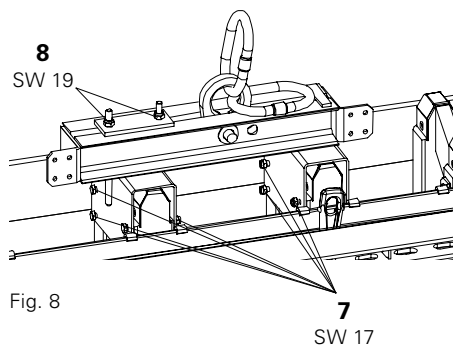
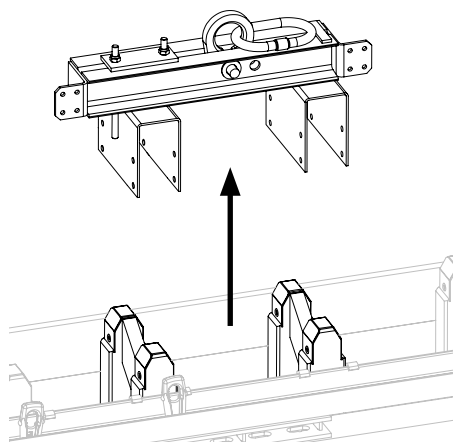

Fig. 8
Fig. 9
2. Release top two Nuts (8).
3. Loosen and remove the eight Nuts and Bolts (7). (Fig. 8)
5. Attach Bolts with Nuts (7) to the Crane Hook 2 t / GT 24.
6. Secure top two Nuts (8). (Fig. 9)